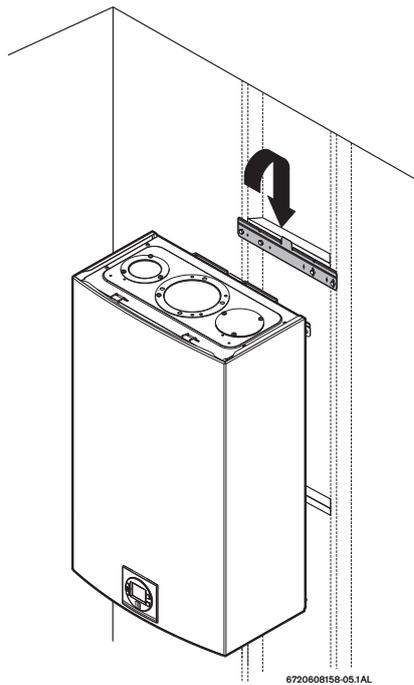

Fig. 22 Mounting the heater
- ▶ Hang the appliance on the bracket, see Fig. 22, page 23.